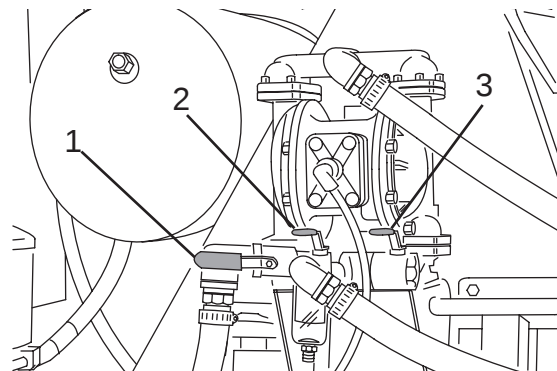

Figure 89
2. Open the main tank ball valve (Figure 89, Item 2) and chemical tank ball valve (Figure 89, Item 1) (if equipped).
NOTE: The purge valve is Figure 89, Item 3).